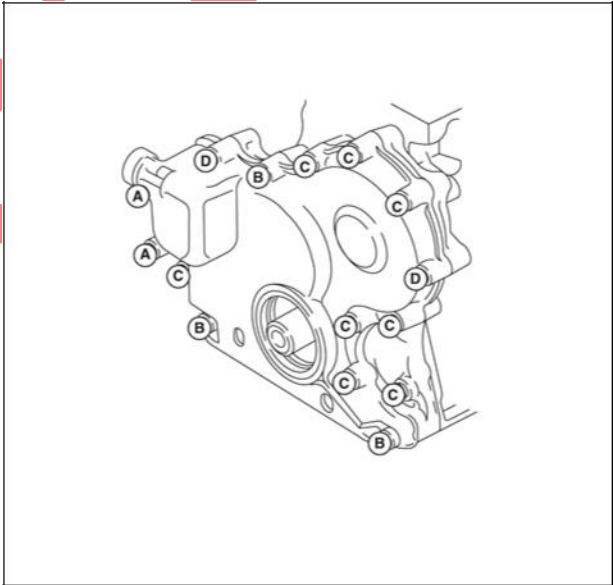

Figure 21
10. Install timing gear cover with new gasket. Note position, length, and number of screws (Figure 21). Torque screws to values listed in Section 14 - Engine Specifications.